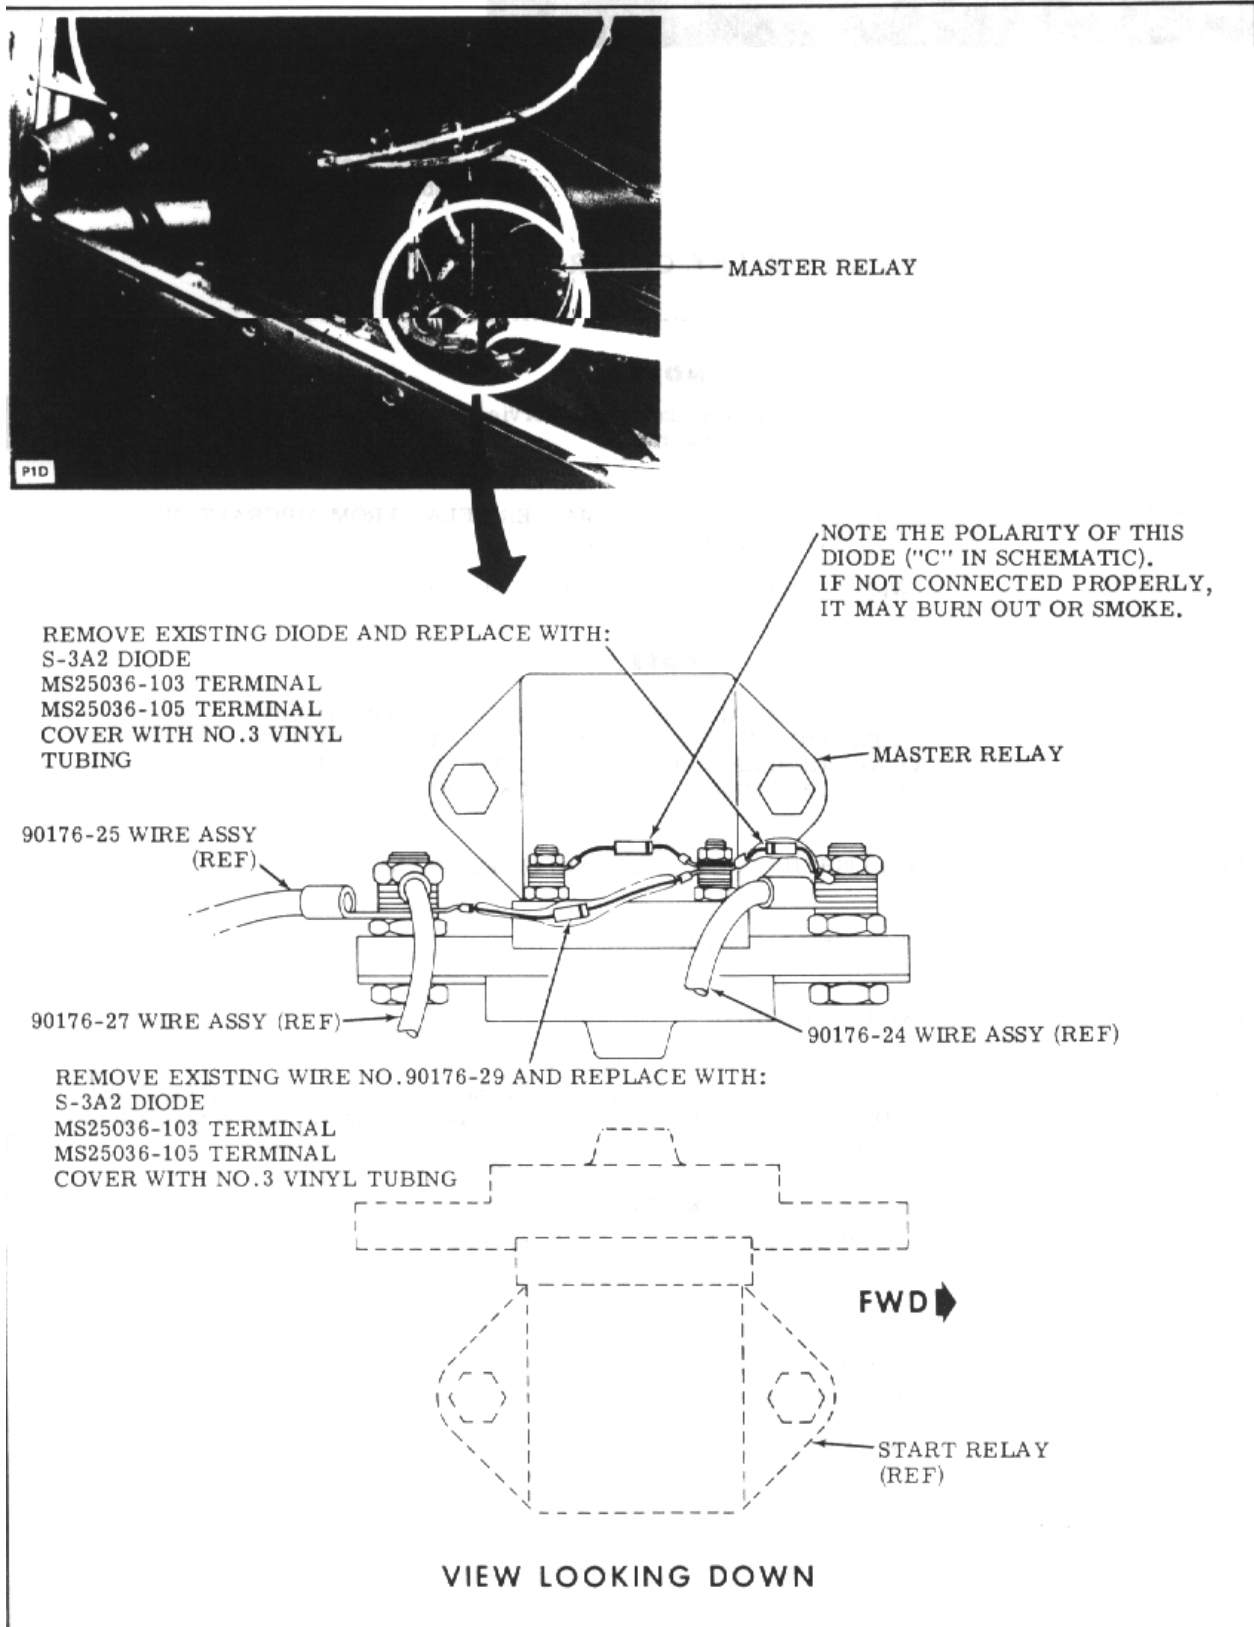

Figure 1.
4. Remove and discard wire No. 90176-29, and existing diode from master relay (see Figure 1.).
5. Install S-3A2 diode (2 places), MS25036-103 terminal (2 places), MS 25036-105 terminal (2 places), and No. 3 vinyl tubing (see Figures 1. And 2.).
1. In case of conflict between illustration and installation shown in Figure 1., and this schematic, follow the schematic.